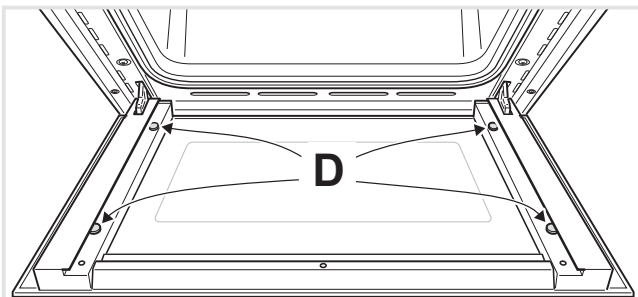

Figure 33
- Check that the four rubber pads are in place ("D" in Fig. 33).